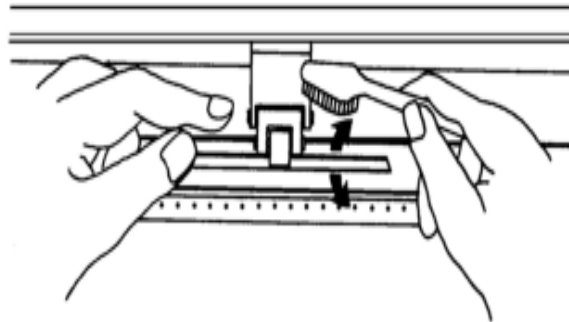

Figure 4-1
- ❖ Use a bristle (a toothbrush is also acceptable) to remove dust from the drum surface. It needs to rotate the drum manually to clean the drum completely (Figure 4-1).